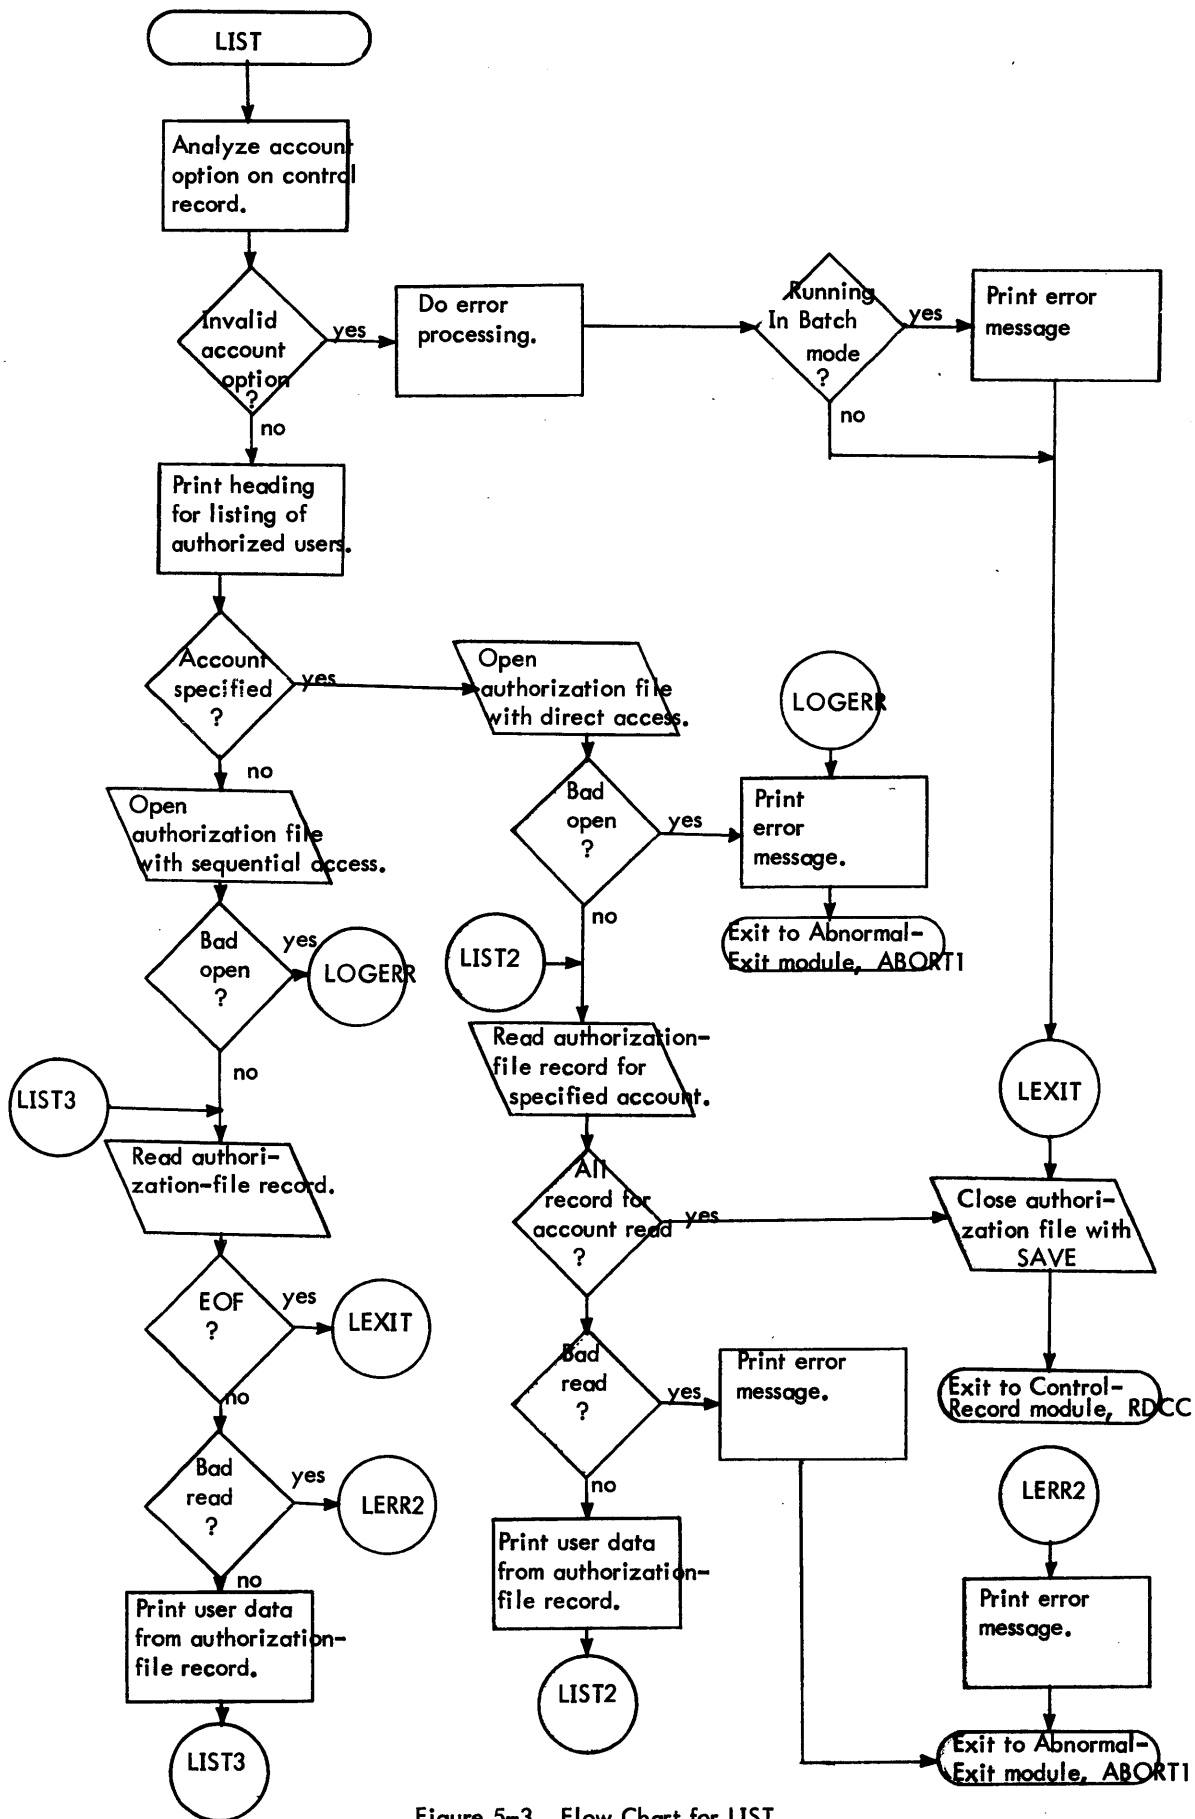

Figure 5-3. Flow Chart for LIST
- (1) The exit is taken if the open fails. For an abnormal return, the error message printed is: "ABORT: :USERLG FILE DOESN'T EXIST". For an error return, the error message printed is: "ABORT: CAN'T OPEN :USERLG".
- (2) The exit is taken if a read fails. The error message printed is: "ABORT: ABNORMAL I/O ON READ LOG SEQUEN".
- See Figure 5-3.